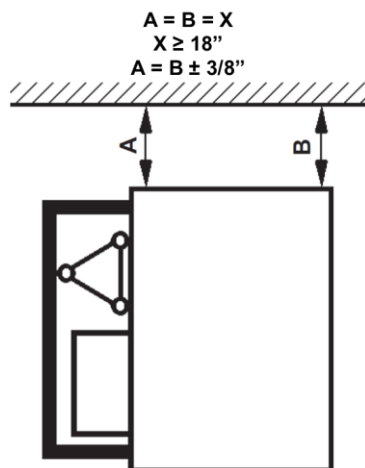
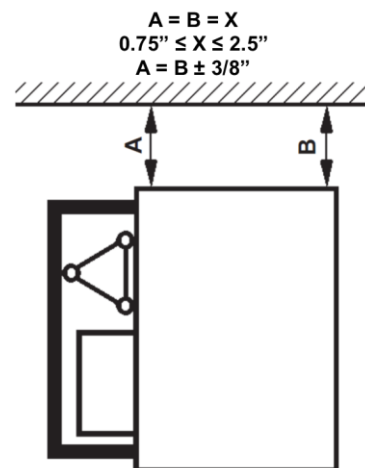

Figure 6.5
Figure 6.6
- **this distance must not be less than 18 in. if installing the unit as a Transport Platform as indicated in ANSI A92.10 as shown in figure 6.5 (if using landing doors for a transport platform supplied by BETAMAX set the unit 24 inches from the building for the door to function properly) or if installing the unit as a Material Hoist is not greater than 2.5 in. as shown in figure 6.6 to ensure the loading unit passes through with no difficulty and no risk of collision**